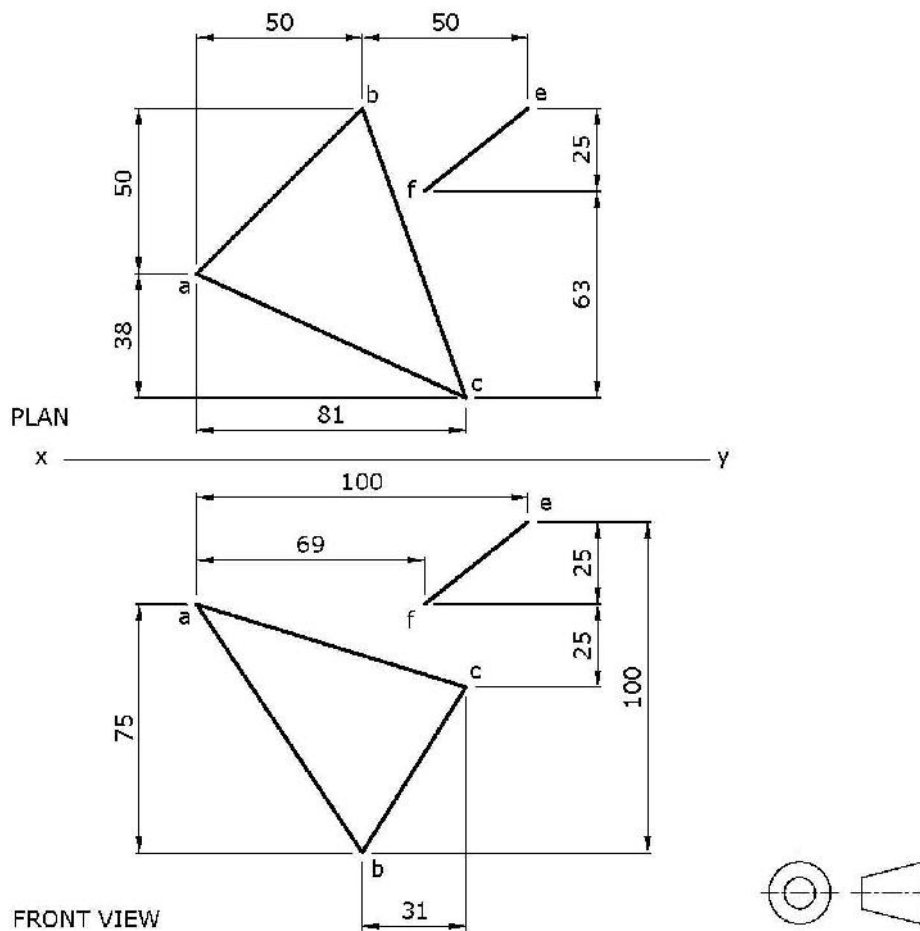

Figure 2b
- a) Copy, full size, the plan and front views of the triangular plate ABC and the line EF shown in Figure 2b. (5)
- b) Draw an auxiliary view to show the triangular plate ABC as an edge. Include the line EF in this view. Locate the point of intersection P of the line EF with the triangular plate. Project the point of intersection P on the front and plan view. (4)
- c) Project another auxiliary view showing the true size of the triangular plate and the projection of the line EFP. (6)
- d) Construct by projection an auxiliary view showing the true length of the line EF and the angle that the line meets the plate. State the length of the line EF and the extended line FP. (5)